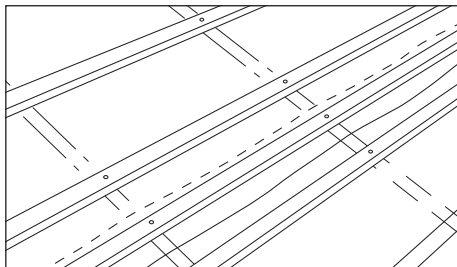

Fig. 14 – Horizontal lap in underlay (showing 'fly battens')
- 4 Alternatively, fasten thin timber or plywood strips ('fly battens') (not less than half thickness of a batten) directly over rafters between battens at which a lap occurs, ensuring strips are clear of any nibs on underside of tiles (Fig. 14).